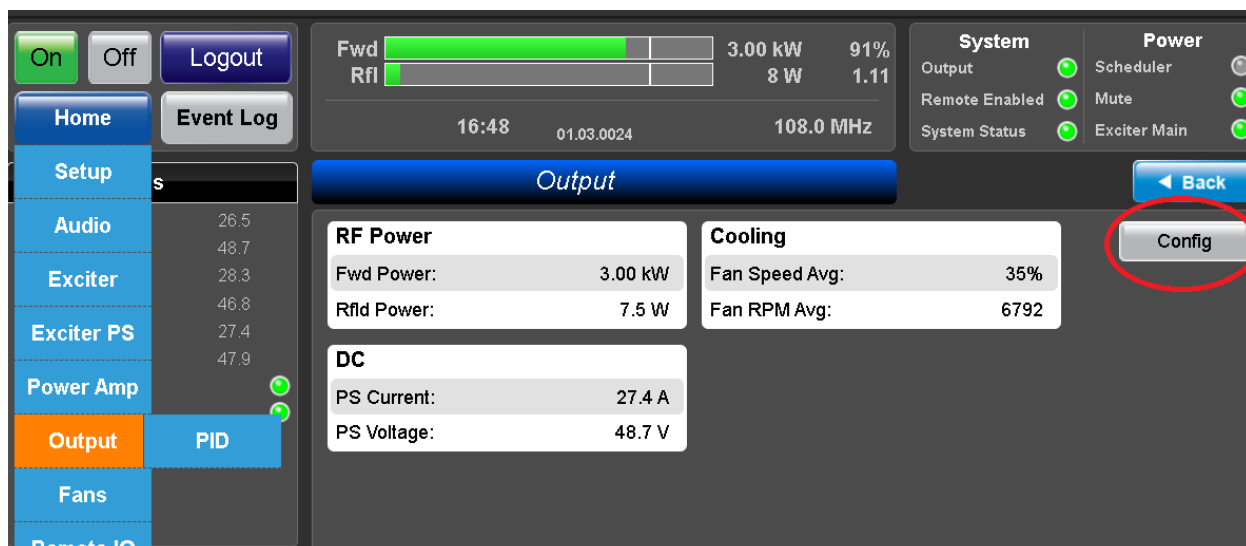

Figure 6-12 Output Screen
STEP 5 Cross-check your normal operating power settings by navigating to Output as shown in Figure 6-12 and click the Config button circled on the right of the screen.